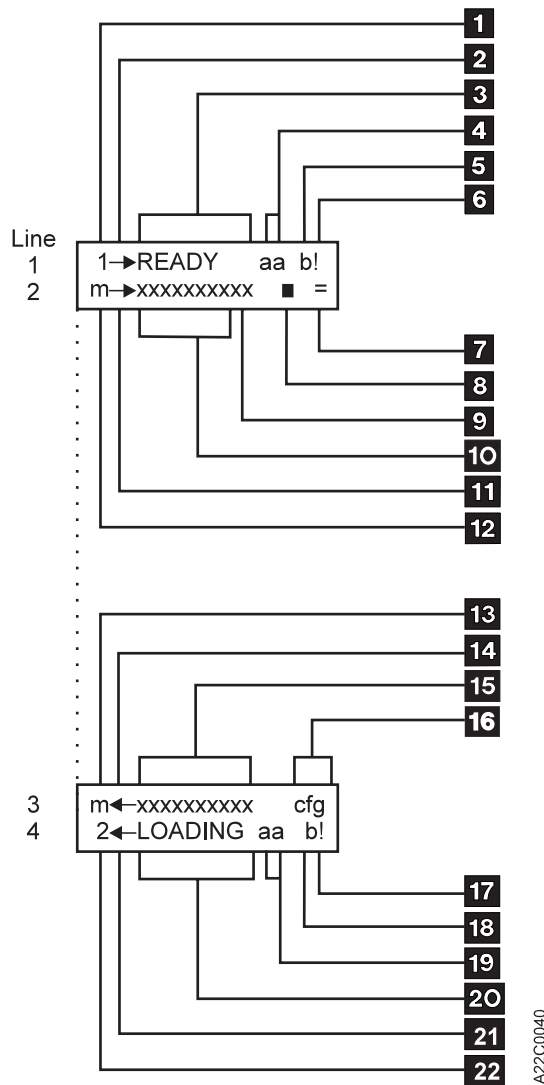

Figure 67. Status Screen
10. The Magstar MP will reset, and the status screen will be displayed. The new library configuration will be displayed on line 3 of the operator panel display. (See **16** in Figure 67 on page 140).
The status screen (Figure 67) provides a view of the current operational status of the library and drive. This screen is the normal default screen. If some other screen is the current display and you want to check status, select SHOW STATUS from the Options Menu.